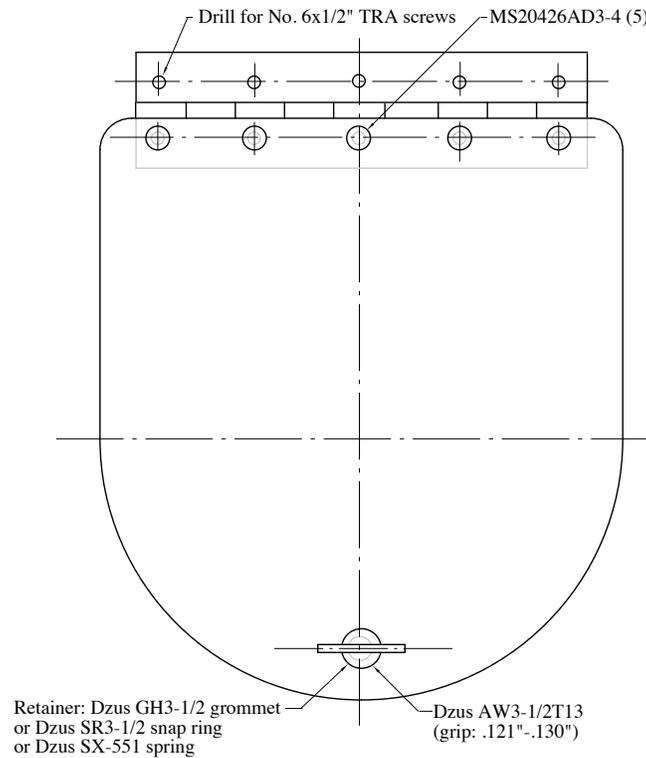
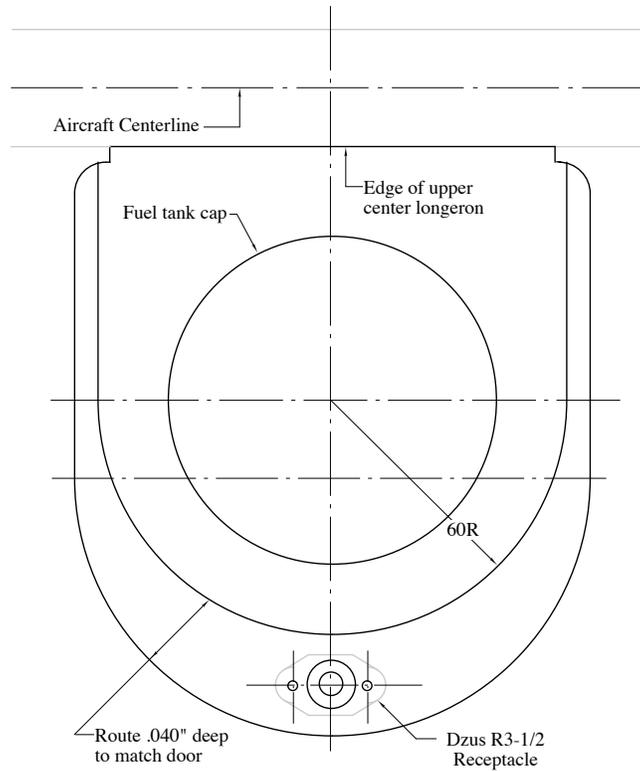
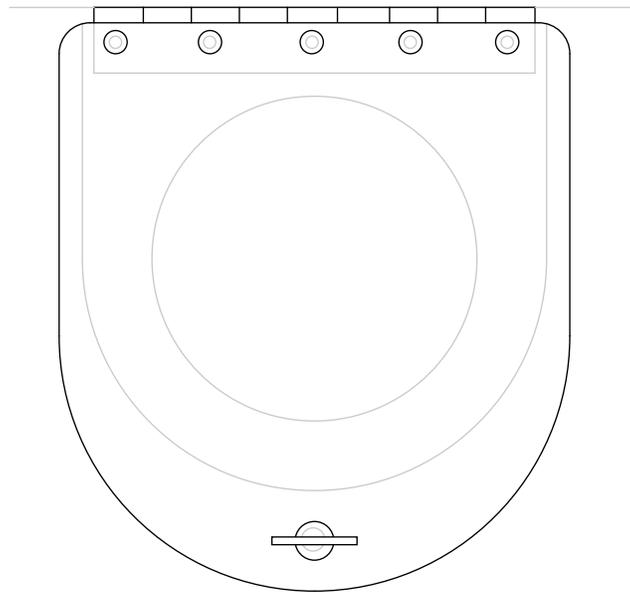

Figure 3
Figure 4
Figure 5
- ❑ Install the hinge on the door. See Figure 3.
□ Install the Dzus receptacle under the plywood. See Figure 4. The receptacle may be installed with soft MS20426A3-5 rivets or with flat head screws. Some epoxy on the receptacle is probably also a good idea. Before you do this, check the grip of the Dzus fastener and add plywood on the lower surface as necessary. The grip length of the fastener is shown on Figure 3.
- ❑ Install a Dzus fastener on the door using a grommet, snap ring or spring. See Figure 3. The final installation is shown in Figure 5.